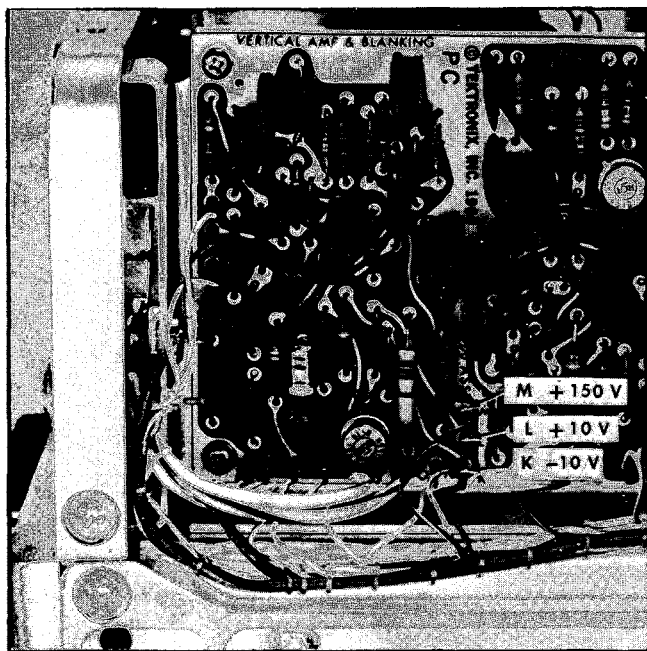

Fig. 6-5. Location of the low voltage check points.
b. Turn the POWER switch to ON position, then connect a calibrated voltmeter between pin K on the Vertical Amplifier and Blanking circuit board, and chassis ground (see Fig. 6-5).
b. Connect the voltmeter between pin L of the Vertical Amplifier and Blanking circuit board and chassis ground (see Fig. 6-5). Check the +10 volt supply. Must read between +9.7 and +10.3 volts (10 V  $\pm$ 3%).
b. Connect the VOM to the voltage check points (Fig. 6-5), and check the voltage regulation of each regulated supply as the input line voltage is varied through the input line voltage range as shown in Table 6-1.